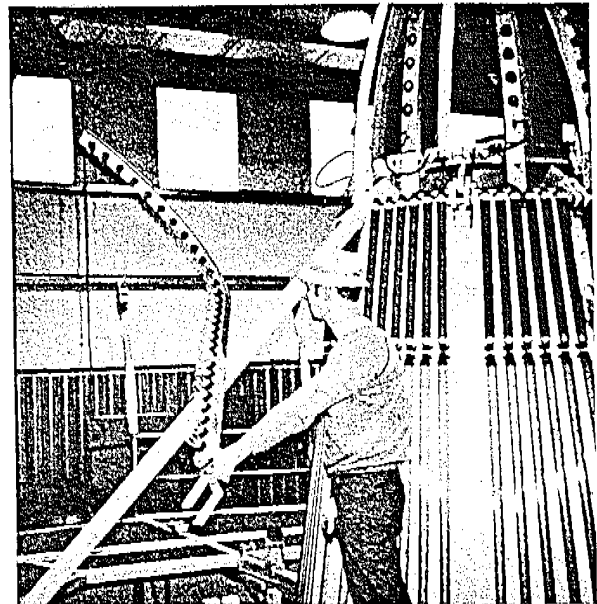

Fig. 57
- c. Swing the light strip around 180 degrees so the curve is toward the top of the center cone. (Fig. 57)
- a. Remove the fastening clamp and rotate the light strip 180 degrees. Position the curve of the light strip toward the platform floor. (Refer to Fig. 57)